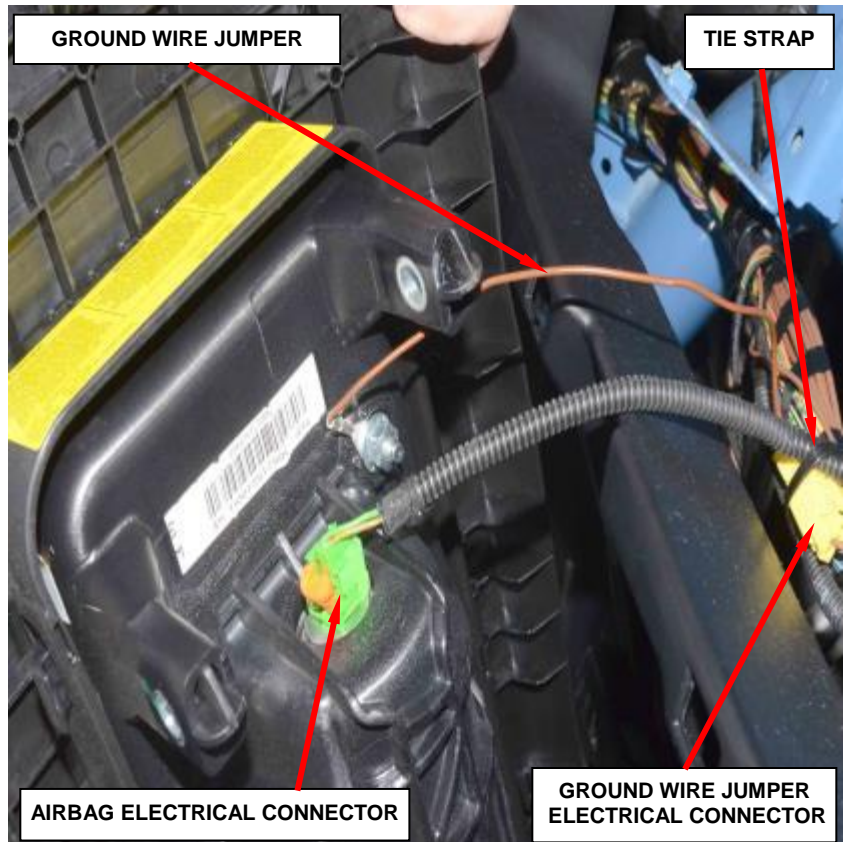

Figure 155 – Ground Wire Jumper
17. Remove and **discard** the tie strap securing the yellow ground wire jumper electrical connector to the instrument panel wire harness (Figure 155).
18. Disconnect the yellow ground wire jumper electrical connector from the instrument panel wire harness (Figure 155).